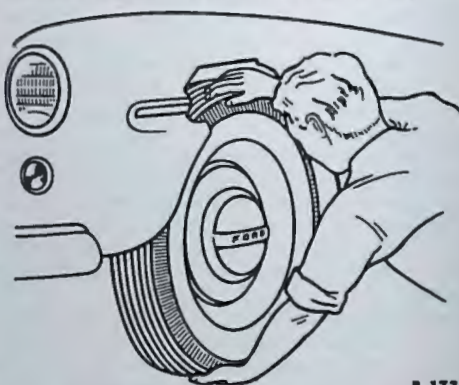

Fig. 3—Checking Spindle Bushings
(2) With the front wheels off the floor, grasp the wheels at the top and bottom (fig. 3) and shake them, observing the movement of the brake plates. If the brake plates have more than $\frac{1}{32}$ inch movement, *rebush the spindles.*